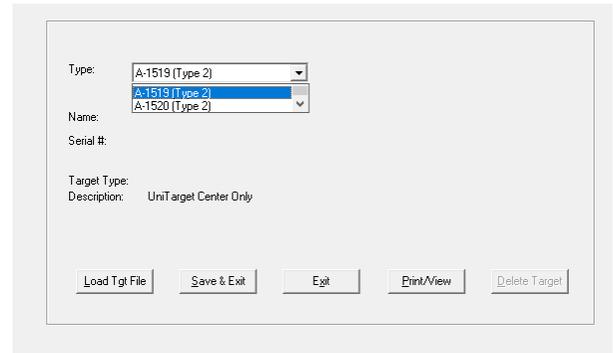

Figure 16 – New Target Screen
1. **Click New Target to display the New Target screen** (see Figure 16).